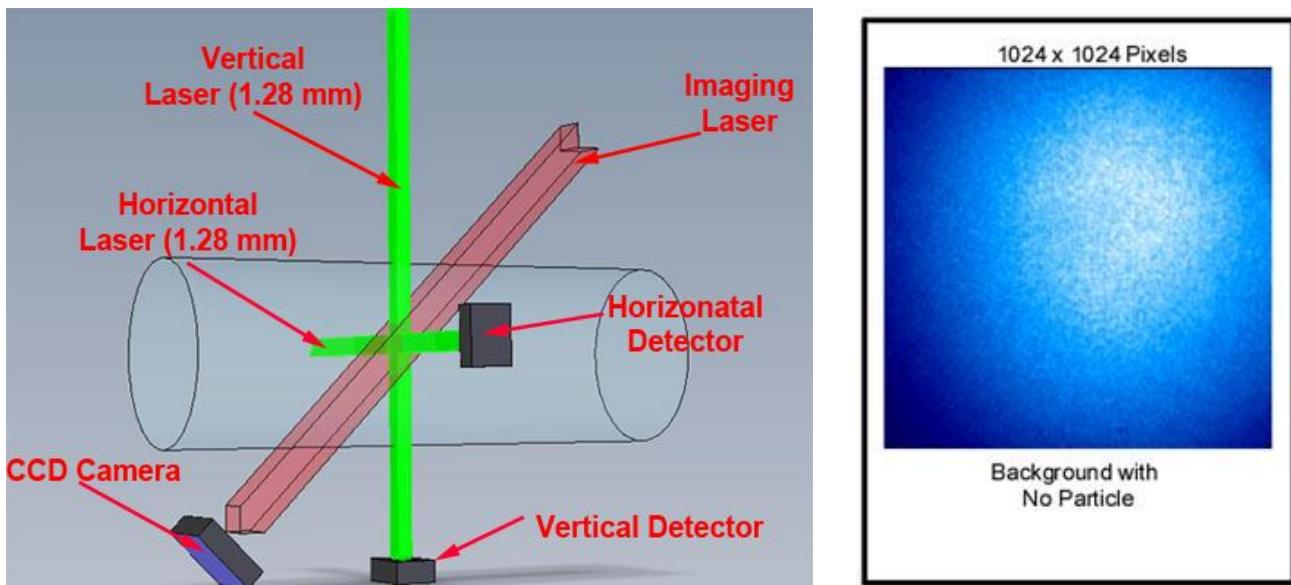

Figure 1.1.2 3-D portrayal of optics and exposed image of the CCD camera when no particle is present.
Figure 1.1.2 shows the primary electro-optical components in the 3V-CPI. The upper left diagram shows a 3-D rendering of the 3V-CPI sample volume. Two ribbon-shaped intersecting laser beams form the 2D-S laser array, one horizontal (90) and one vertical (45). Both lasers are functionally identical. The diagram in the upper right of **Figure 1.1.2** shows the laser beams illuminating the arrays in the absence of a particle in the sample volume. The object plane for the imaging CCD camera is located on the trailing edge of the 2D-S beam intersection.
Upon instrument startup, the imaging system pulses the imaging laser and captures a full frame background CCD image in the absence of cloud particles. The background image is stored and used to process subsequent frames thought to contain a particle. The background CCD image is shown in **Figure 1.1.2**.